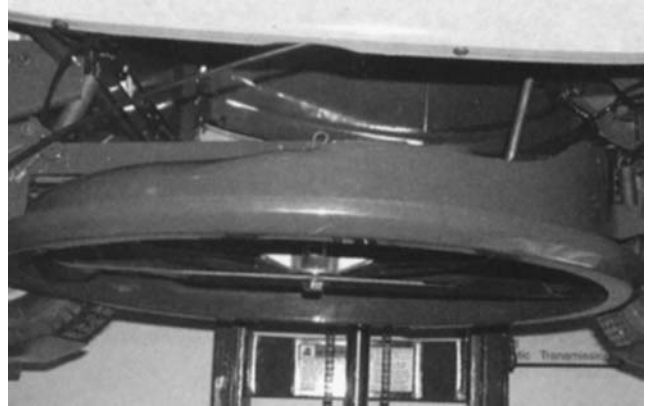

Figure 8-2.
1. Using a work glove or rag, rotate the mowing blade until it is parallel with the rider frame. See Figure 8-2.